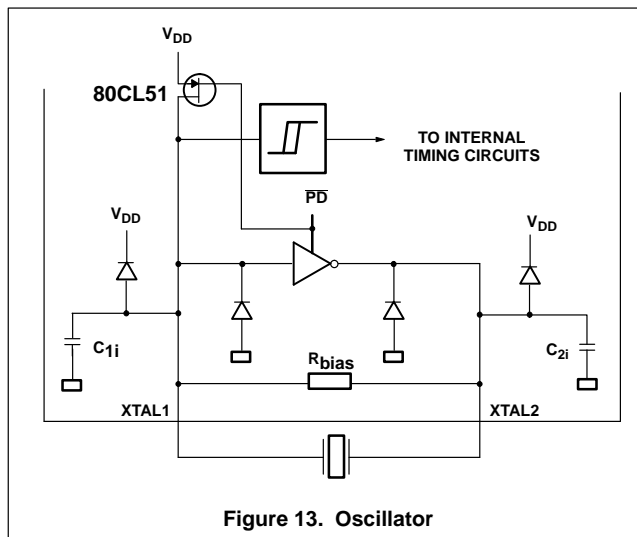
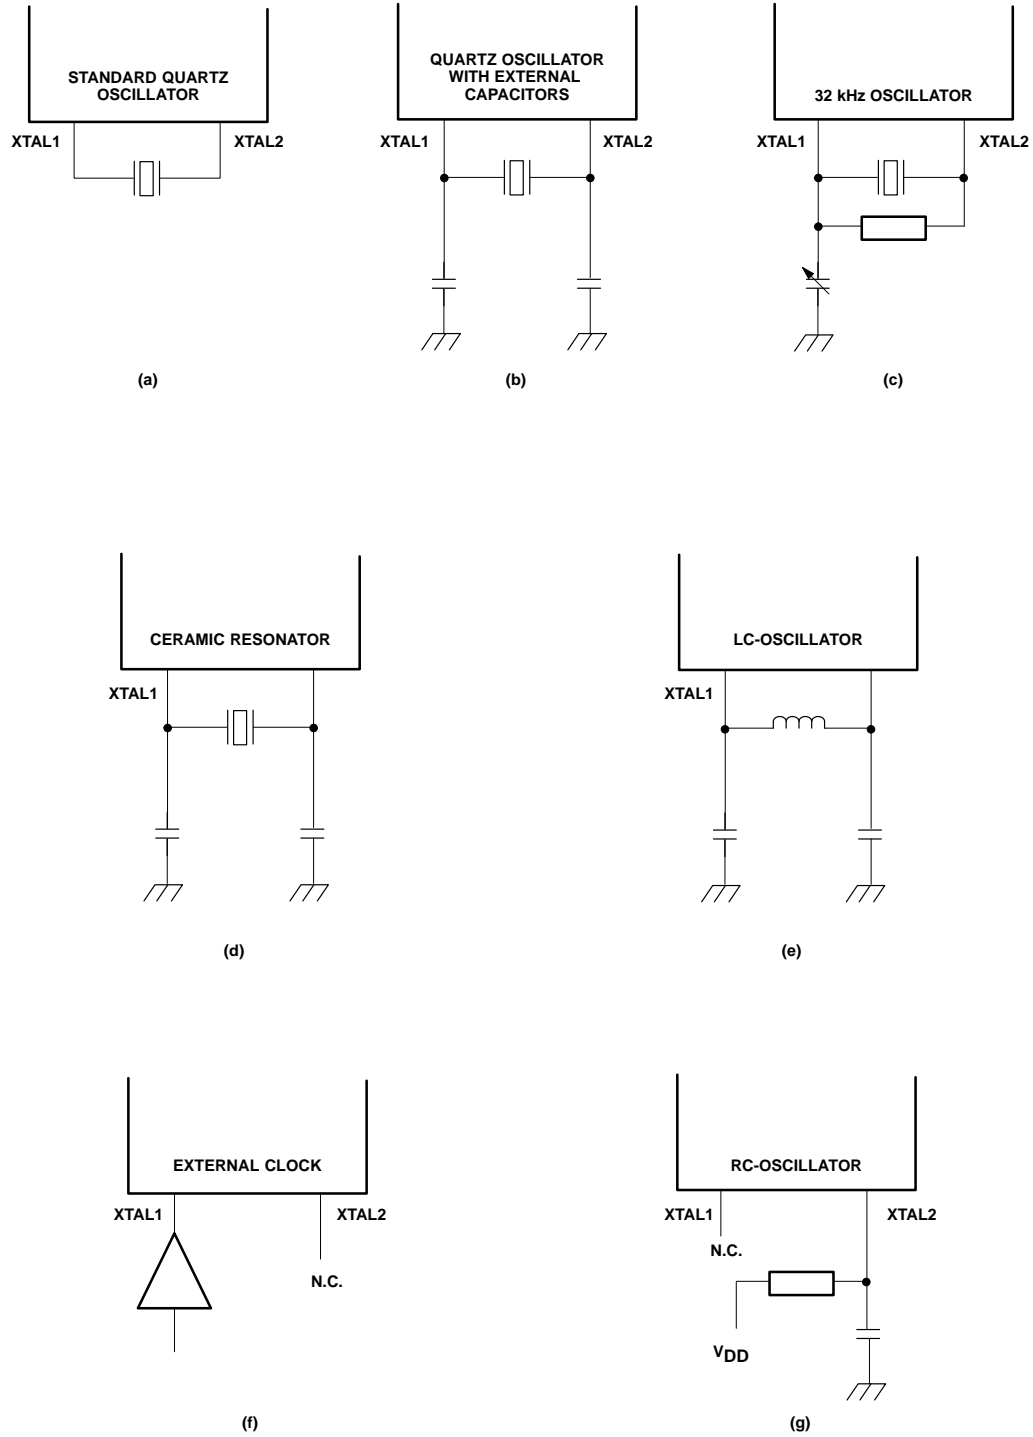

Figure 13. Oscillator
Figure 14. Alternative Oscillator Configurations
The on-chip circuitry of the 80CL51 is a single-stage inverting amplifier biased by an internal feedback resistor (Figure 13). For operation as standard quartz oscillator, no external components are needed except at 32 KHz. When using external capacitors, ceramic resonators, coils and RC networks to drive the oscillator, five different configurations are supported (see Figure 14 and oscillator options).
In the Power-down mode the oscillator is stopped XTAL1 is pulled HIGH. The oscillator inverter is switched off to ensure no current will flow regardless of the voltage at XTAL1. To drive the device with an external clock source, apply the external clock signal to XTAL1, and leave XTAL2 to float, as shown in Figure 14(f). There are no requirements on the duty cycle of the external clock, since the input to the internal clocking circuitry is splitting a flip-flop.
1.7.1 Oscillator options (see Figure 14)
- Osc. 1: Figure 14(c): An option for 32 kHz clock applications with external trimmer for frequency adjustment. A 4.7 MΩ bias resistor is needed for use in parallel with the crystal.
- Osc. 2: Figure 14(e): An option for low-power, low-frequency operations using LC components.
- RC: Figure 14(g): An option for an RC oscillator.